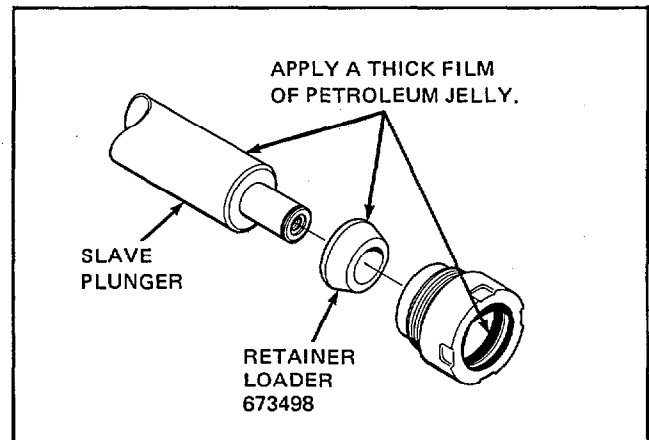

Figure 16. Retainer Loader
21. Place the 2.50" O.D. retainer loader over the end of the slave plunger. Apply a thick film of petroleum jelly to the loader and inner surfaces of the primary plunger retainer. Load the retainer onto the slave plunger. See Figure 16.